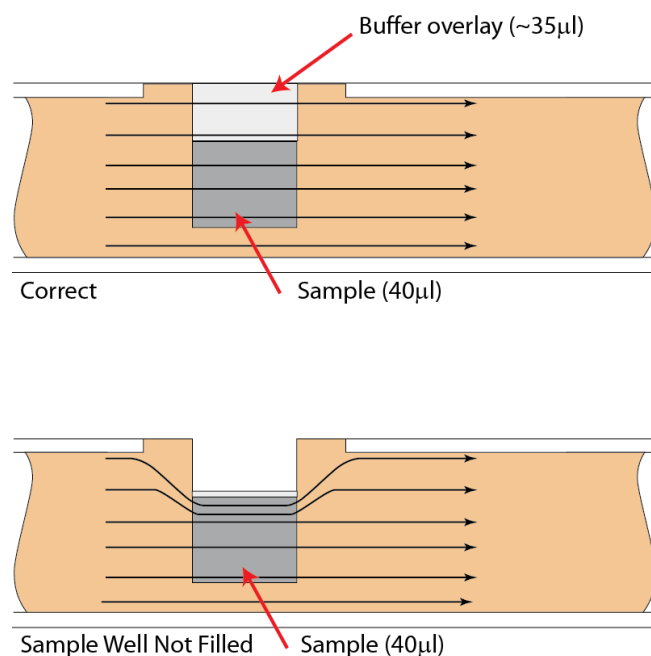

Figure 10.1. An illustration of the electrophoretic effect on a sample when a sample well is not completely filled.
Proper sample loading is critical for best performance of SageELF cassettes. For maximum reproducibility and accuracy, the sample should travel through the central section of the gel column, and should be bounded on all four sides by uniformly conductive media – either gel or electrophoresis buffer. The goal of the loading procedure is to produce this geometry in the sample loading well, as illustrated in the bottom section of **Figure 10.1**. Properly prepared samples will be 40 μl in total volume. Loading solution used during sample prep contains concentrated Ficoll as a densifying agent (see following chapter on Sample Preparation for details), and therefore the samples will sink and form a high density layer beneath the electrophoresis buffer when pipetted slowly into the sample wells. If there is insufficient conductive buffer over the sample, the electrophoretic forces lines will curve upward as the sample exits the well (see **Figure 10.1**, upper section), and the sample will be drawn to the top of the cassette where it can travel out of the gel into the gap between the gel column and the plastic top of the channel. Sample moving in this gap will travel at a different rate than the sample inside the gel column, and will lead to elution of undesired size fractions in the eluted material. In such cases, the contaminating sample will usually (but not always) be higher in molecular weight than the anticipated fractions.
2. **Remove 40 μ l of buffer from the sample well, and load 40 μ l of sample into that well.** Take care not pierce the agarose with the pipette tip. There is gel on all sides and bottom of the sample well. In addition, there is an agarose “chimney” surrounding the top of the sample well that protrudes up through the cassette cover (see **Figure 10.1** on the previous page). When removing buffer, some users find it useful to immerse the pipette tip just below the surface of the buffer and follow the liquid level down with the tip as the buffer is removed. When buffer removal is completed, there will be ~35 μ l of buffer left in the well. When adding sample, place tip of pipette just below the surface of the buffer, and follow the liquid level up with the tip as the well fills. Don't be concerned if the sample well slightly overfills. The density of the sample will allow it to sink before it can flow out of the well.